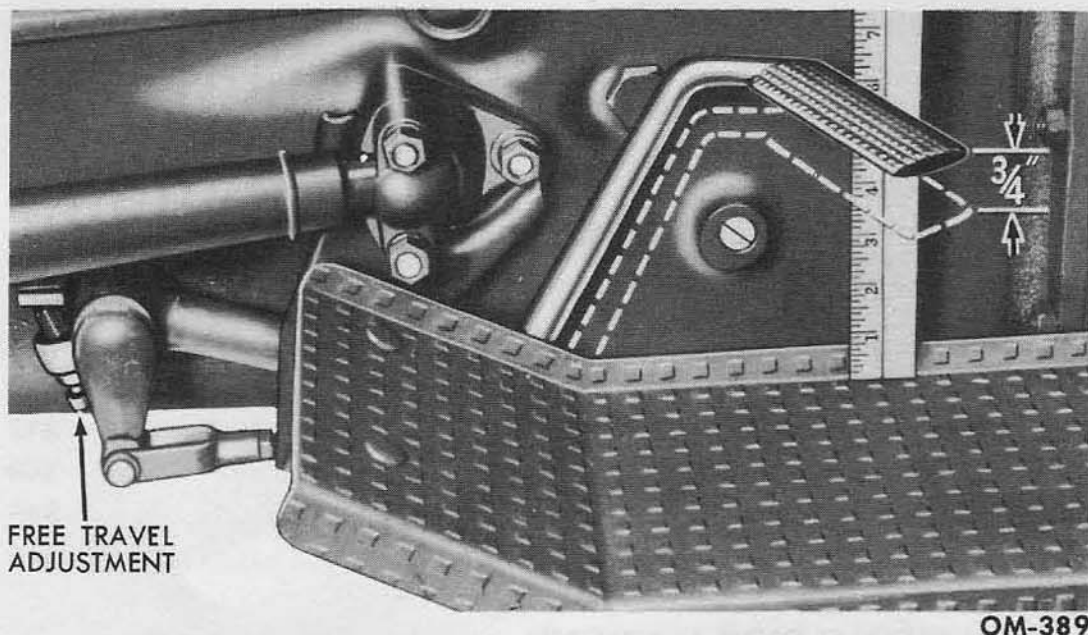

Fig. 43—Clutch Pedal Free Travel Adjustment
e. Adjust Clutch Pedal Free Travel. The clutch pedal should be adjusted to have $\frac{3}{4}$ inch free travel. The adjustment screw is located on the clutch pedal. Fig. 43 shows the method of adjusting and measuring the clutch pedal free travel.